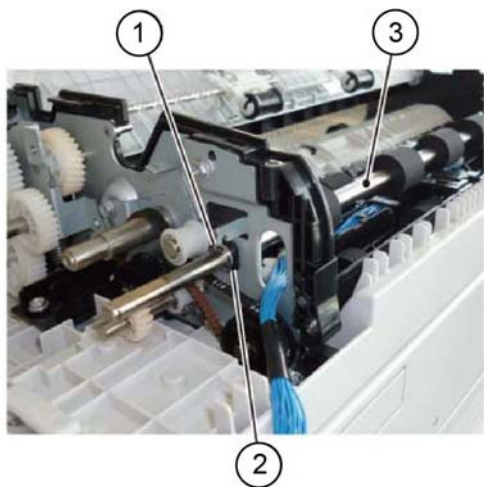

Figure 9 Takeaway roll removal
15. Remove the rear bearing, then the DADF takeaway roll, **Figure 9**:
- a. Remove the E-clip (1).
- b. Remove the bearing (2).
- c. Remove the DADF takeaway roll (3).